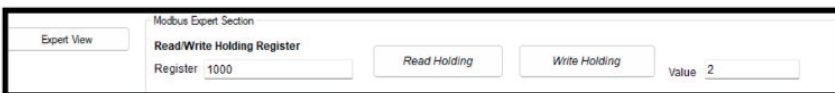

Figure 15
4. Set the Register to 1000 in the Holding Register, with a Value of 2 (for ID 2) (Figure 15).